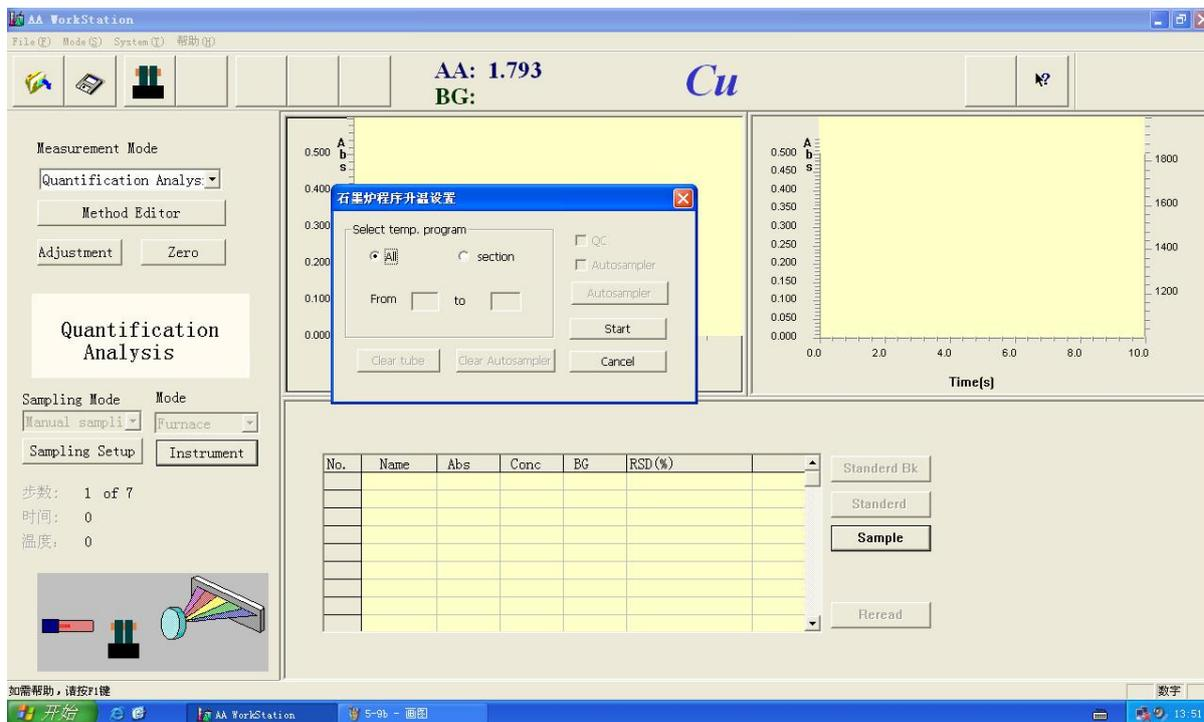

Figure 5-10
14. Please sampling after automatically calibrating temperature. Press “Start”, Figure 5-10 dialog box pops up (If close the ”Furnace Parameters Editor” window, press the “Sample”, it pops up as well). ”All” and “Section” are optional, if you select the “All”, press “Start” to start heating.